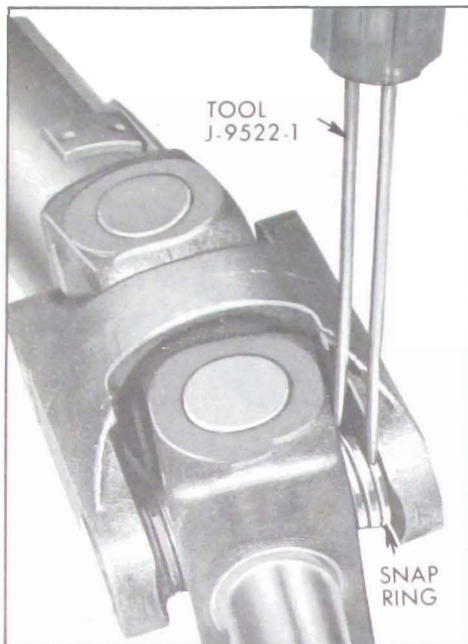

Figure 6-94—Removing Snap Rings From Propeller Shaft
1. Remove snap rings from the bearings. The snap rings are on the inside of the link yoke and can be removed with the assistance of Tool J-9522-1. See Figure 6-94.
1. Remove snap rings from the bearings. The snap rings are on the inside of the yoke and can be removed with the aid of Tool J-9522-1. See Figure 6-94.